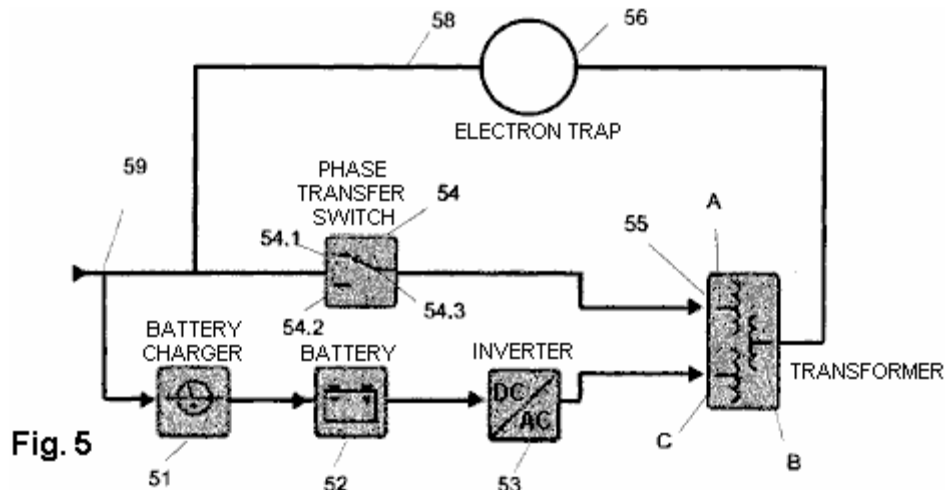

**Fig.4**
**Fig.4** shows another embodiment of the system for self-powered electricity generation which is comprised of a basic circuit of a typical uninterruptible power supply, consisting of a battery charger (AC/DC converter) **A** connected to an inverter (DC/AC) **42** and attached to them, battery bank **41**, and this basic circuit together with other devices are connected to a free space electron-capture device **44** or an earth-connection electron-trap **44**. Comprising thus, a battery charger **A** connected to a battery bank **41**, which is connected in series with inverter **42** at point **B** which is in series with point **C** of inverter **42** which is in series with the electron sensor **44**, which is in series with the phase transfer switch **43** via the three-phase load output connection point **45**. The phase transfer switch **43** is in series with the inverter **42**, which is connected in series the (AC/DC converter) battery charger **A** feeding the battery bank **41**.